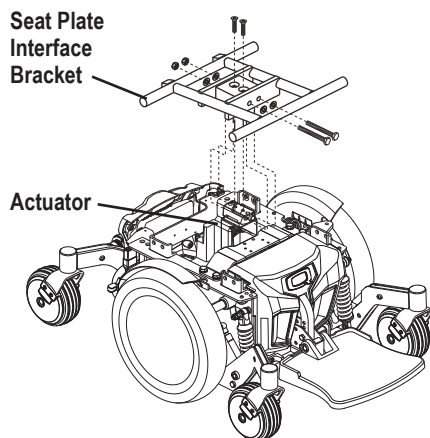

Figure 11. Power Elevating Seat Actuator
1. Place the seat plate interface bracket onto the actuator. **See figure 11.**